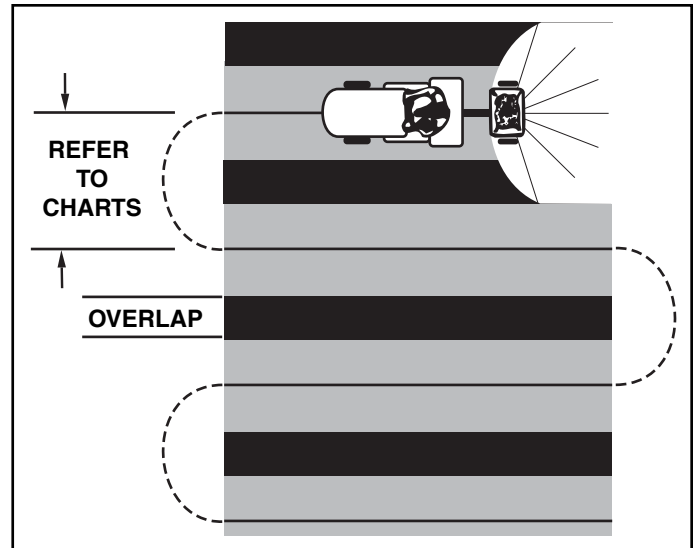

FIGURE 17
- To insure uniform coverage, make each pass so that the broadcast pattern slightly overlaps the pattern from the previous pass as shown in figure 17. The approximate broadcast widths for different materials are shown in the application chart on this page.